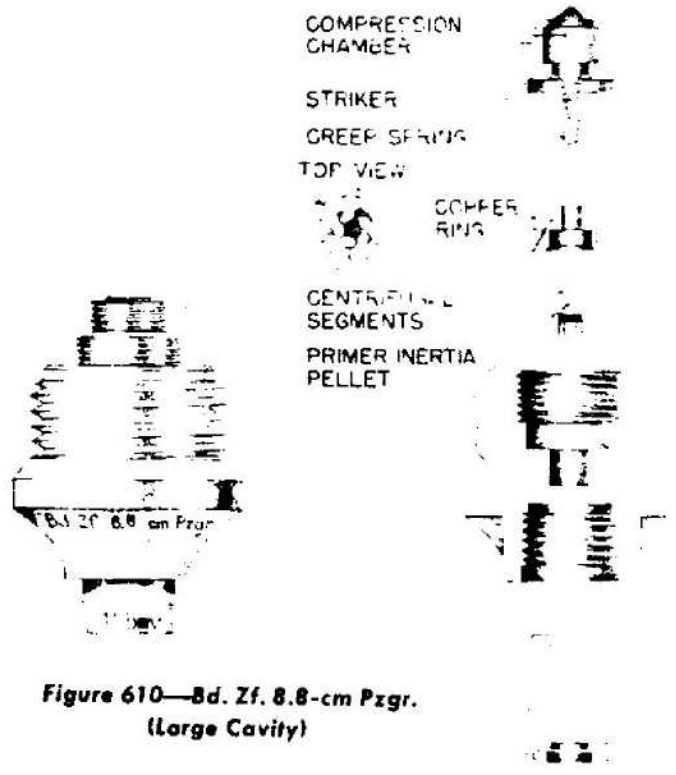

Figure 610—Bd. Zf. 8.8-cm Pzgr.
**EMPLOYMENT:** Mechanical Impact Base Fuze used on German 8.8-cm A. P. projectiles. (See fig. 610.)